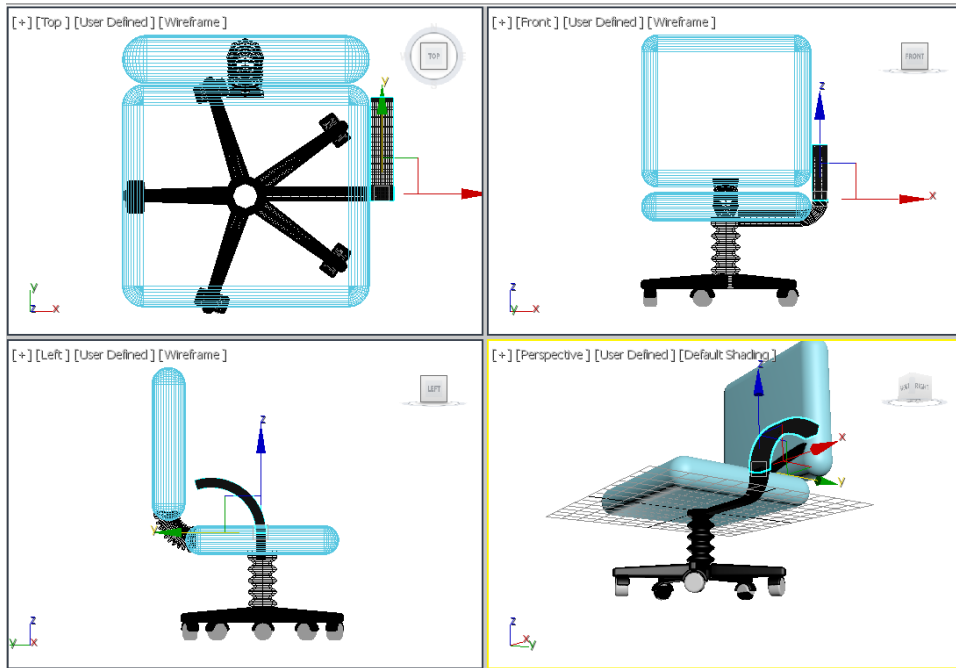

Figure 3-49 Alignment of right hand support002 in viewports
12. Align *right hand support002* in viewports using the **Select and Move** and **Select and Rotate** tools, as shown in Figure 3-49.